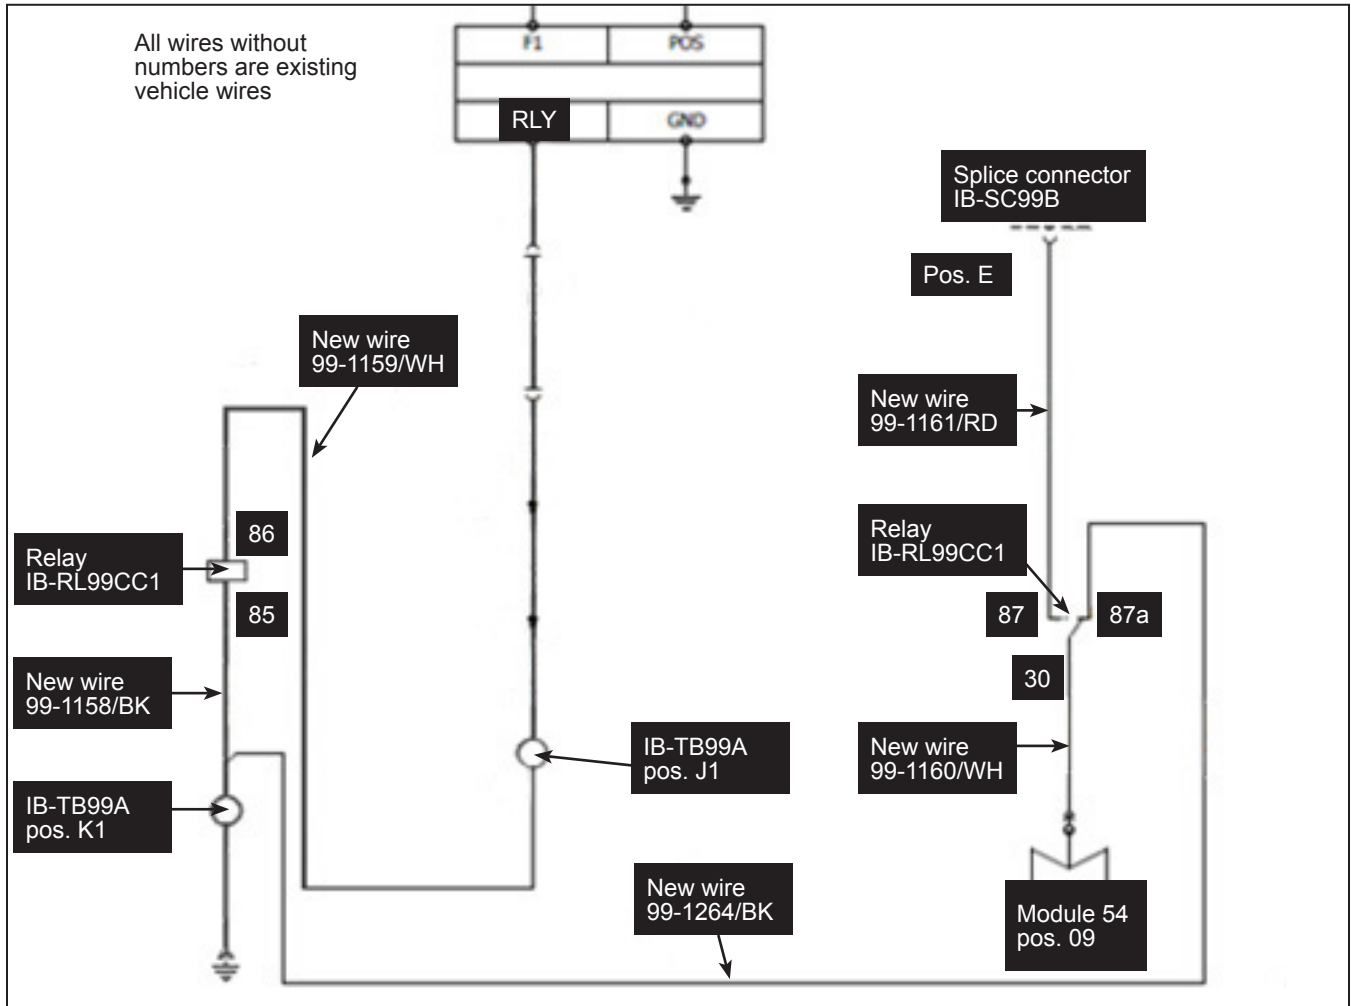

Figure 2 - Wire and Relay Added to Alternator Wiring Diagram
- 1.11. Connect wire 99-1161/RD in splice connector **IB-SC99B** position **E**. See Figure 2 for wiring diagram of the alternator in load signal.